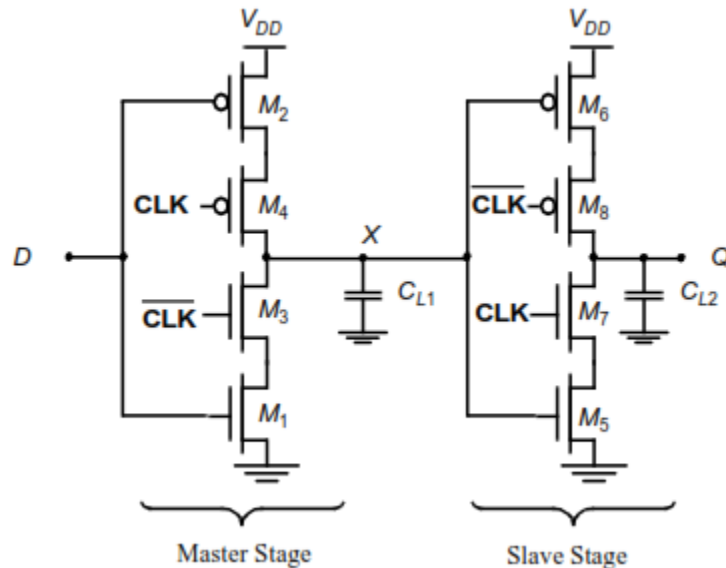

Figure 3.16 C2MOS master-slave positive edge-triggered register.
- Figure 3.16 shows positive edge-triggered register based on the master-slave concept, which is insensitive to clock overlap. This circuit is called the C2MOS (Clocked CMOS) register.